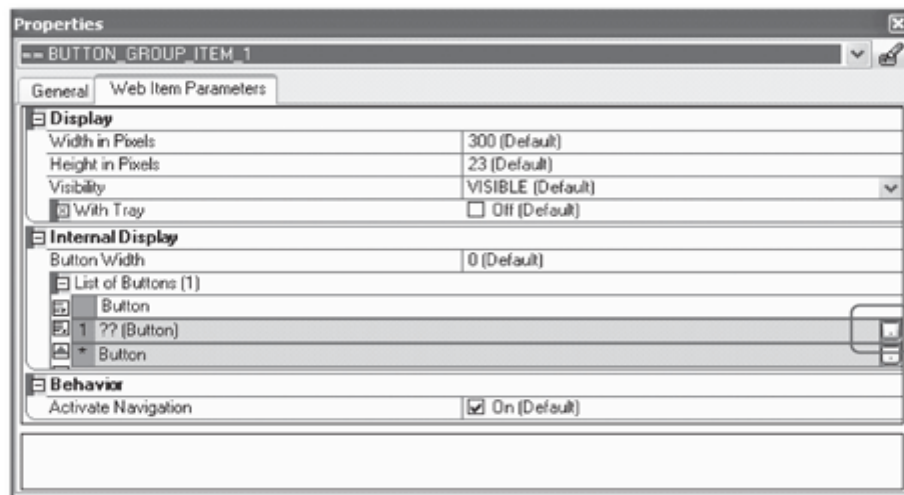

Figure 12.93 Add a Button to the Button Group
7. The buttons for this button group are defined in the properties of the button group. Click on the button shown in Figure 12.93 to add a new button to the button group.